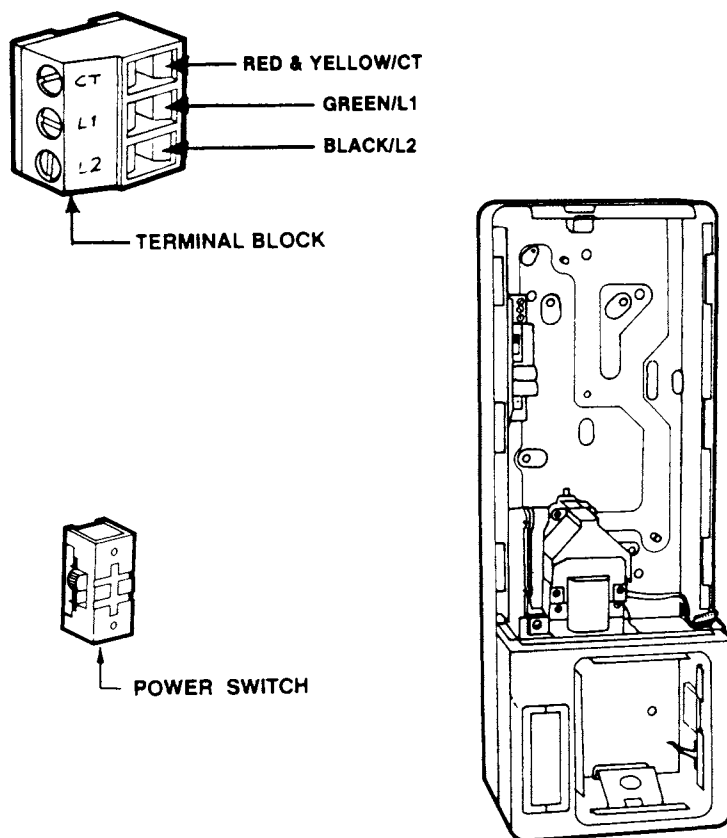

Figure 11 Wiring Connectors On Power Supply Board
- If a terminal block is used on the power supply board, strip 1/4 inch from the outer jackets of the red, yellow, green, and black power cable wires. Then loosen the terminal block's connection screws labeled CT, L1, and L2. Refer to Figure 11.
- Insert the red and yellow wires into the connection terminal labeled CT, the green wire into connection terminal L1, and the black wire into connection terminal L2. Refer to Figure 11.